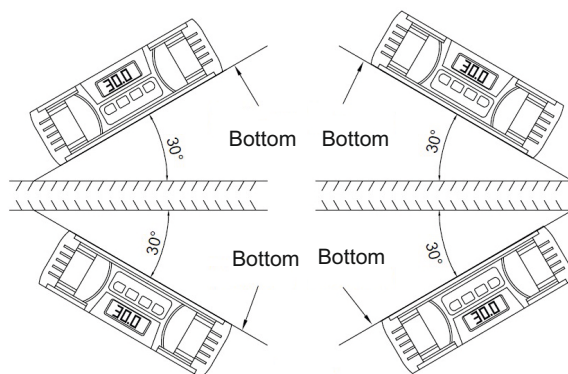

Fig. 6
- » If you turn the instrument upside down, the display will automatically flip over (Fig. 6).